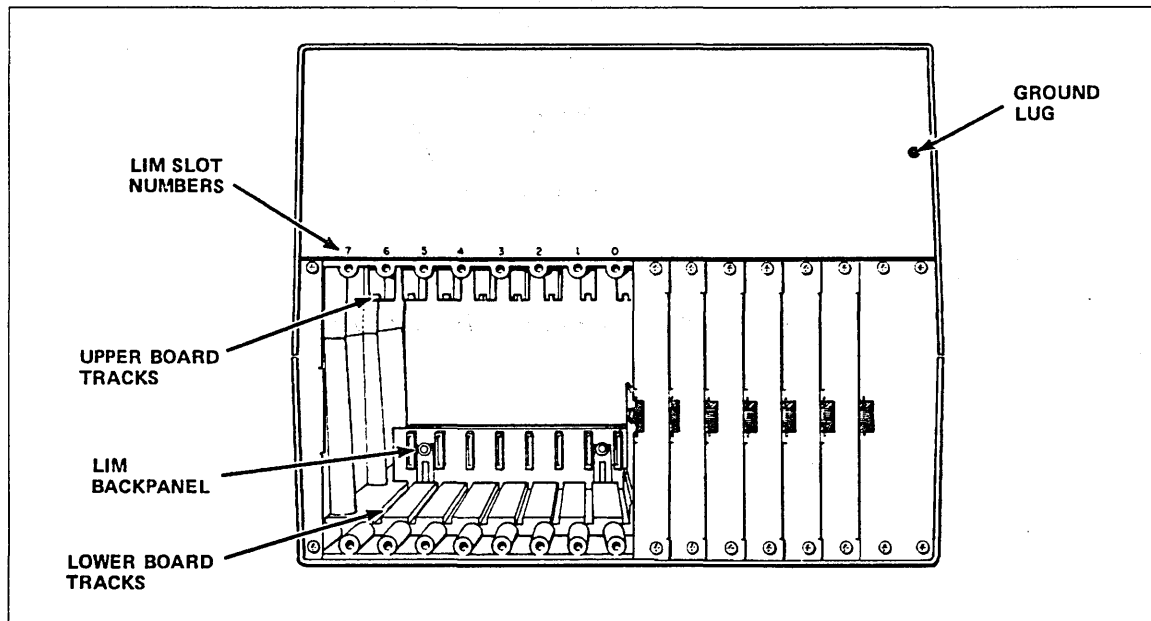

Figure 1-36. LIM Backpanel
Static electricity can damage the board circuits. Always wear a static discharge wrist strap when handling logic boards. When installing LIMs, ground the wrist strap to the lug on the back of the cabinet (figure 1-36). Do not handle the boards by the gold backpanel connectors.
2. Refer to the installation worksheet for slot number of LIMs and remove filler plate(s) from the back left of the cabinet. Refer to figure 1-36, which shows the LIM backpanel, for location.